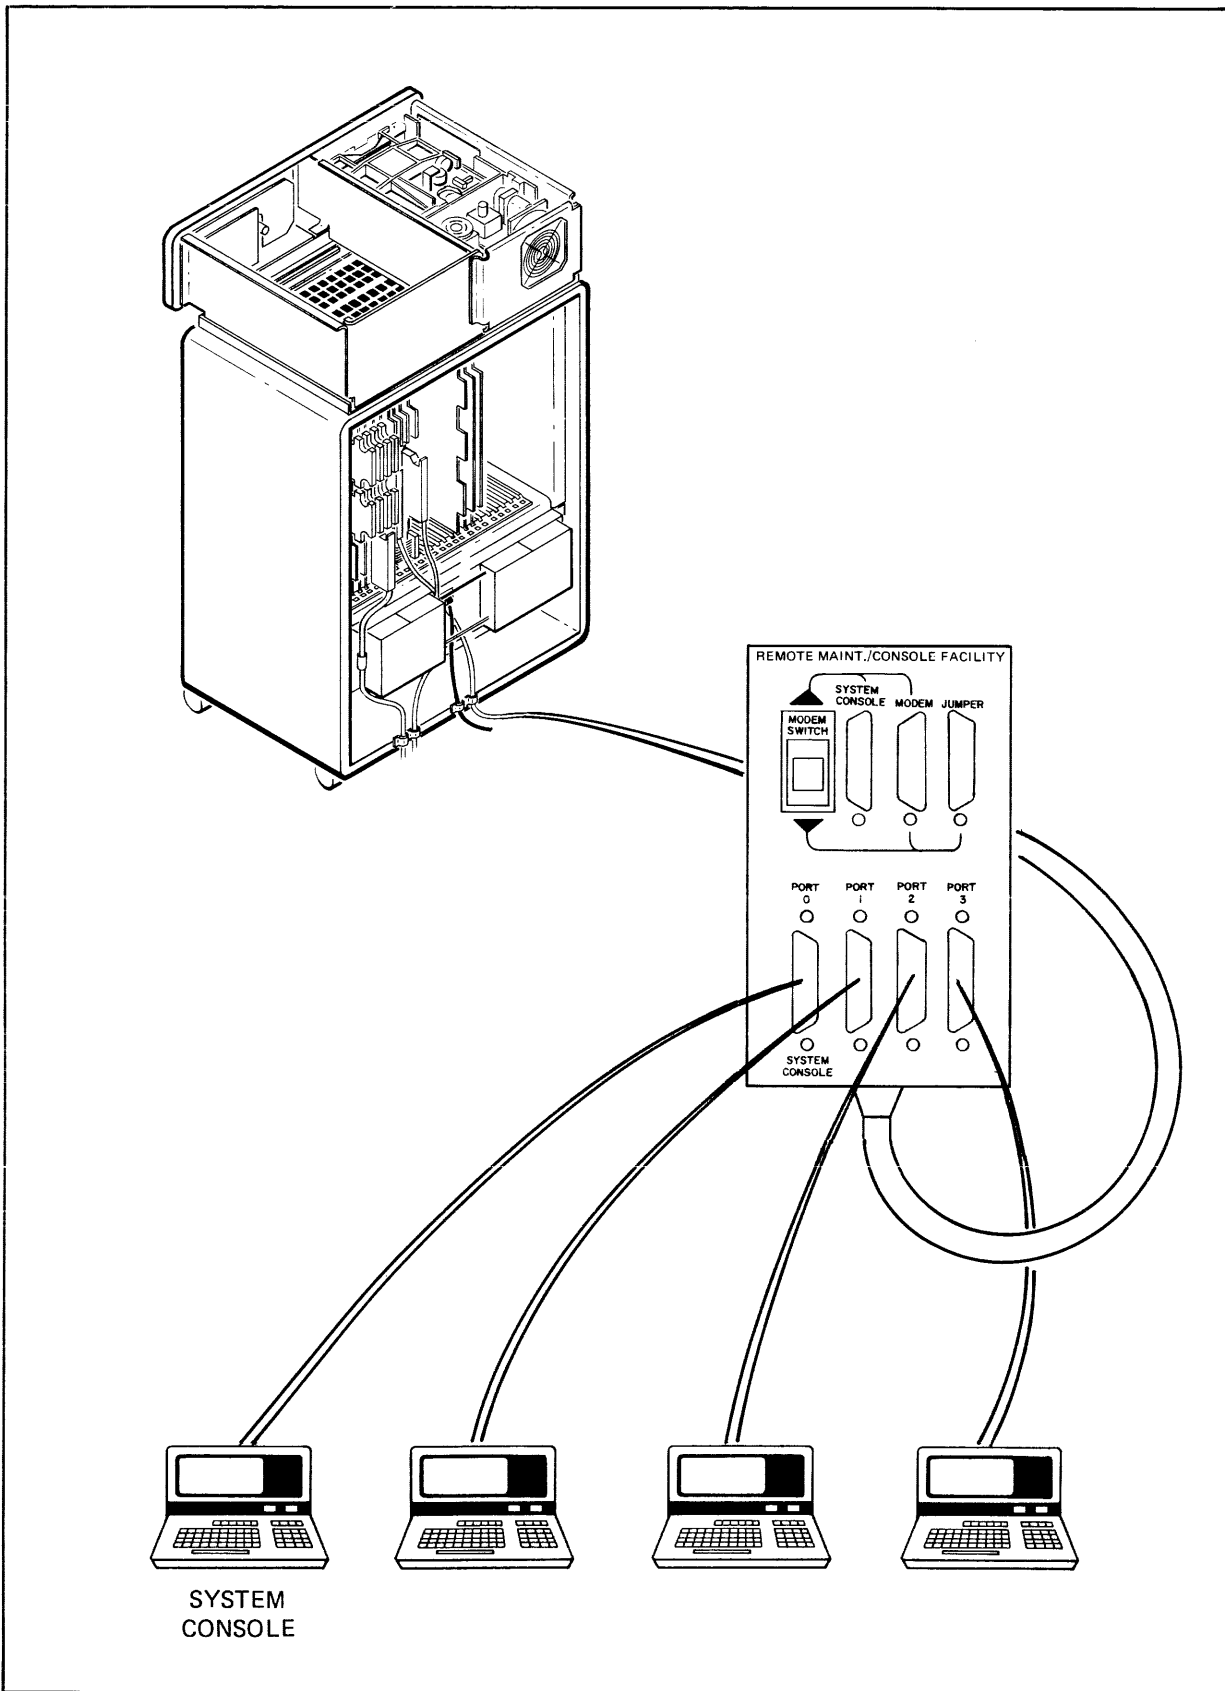

Figure 3-6. Processor Terminal Panel and RS-232 Cable Routing
5. Route the free end of the RS-232 cable from the terminal to the switch box . Connect it to the next available RS-232 terminal panel connector. (See figure 3-6.) If the switch box is full, route cables through terminal quad boxes.